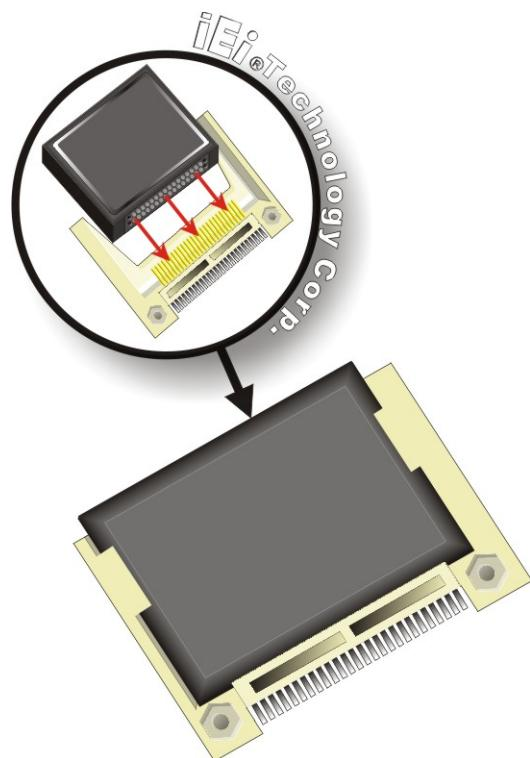

Figure 4-2: CF Card Installation
Step 3: Insert the CF card. Gently insert the CF card into the socket making sure the socket pins are properly inserted into the socket. See Figure 4-2.